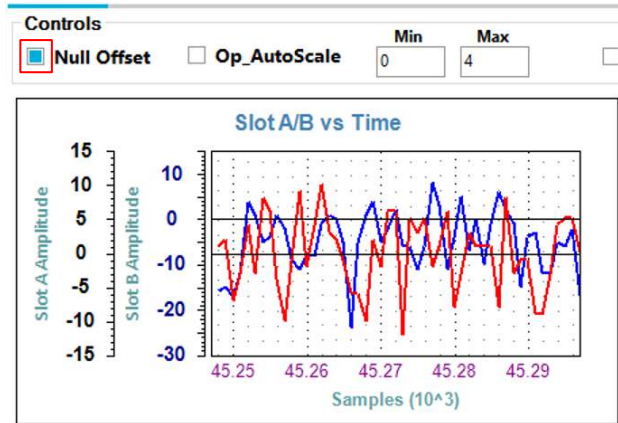

Figure 17. Data View Following Null Offset
- In the data view, click the **Null Offset** button to set the Time Slot A and Time Slot B raw data values to approximately zero, plus or minus the noise that may be present (see Figure 17).